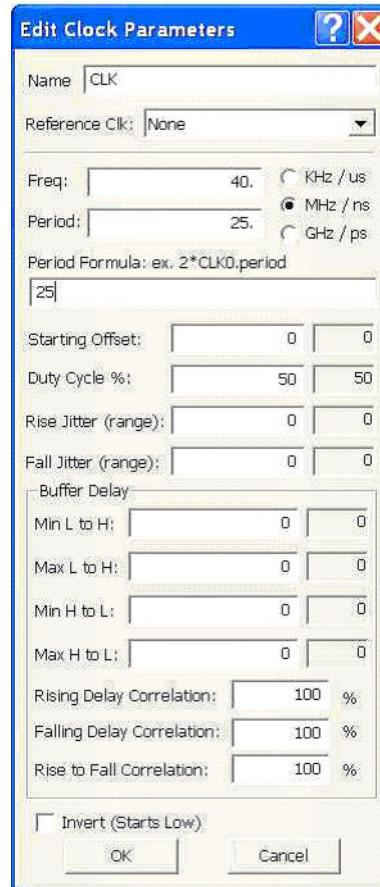

Figure 7-16 • Edit Clock Parameters in WaveFormer Lite
2. Double-click any clock segment to edit the clock parameters (Figure 7-16). Set a frequency of 40 MHz.